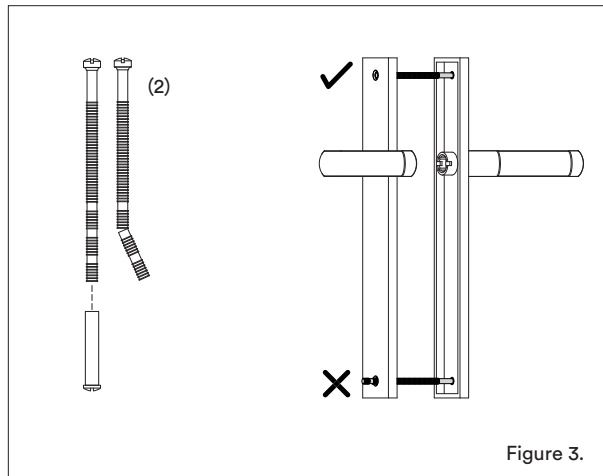

Figure 3.
- 3.2. Ensure to cut so that the screw does not protrude from the opposite plate once installed. (Figure 3)